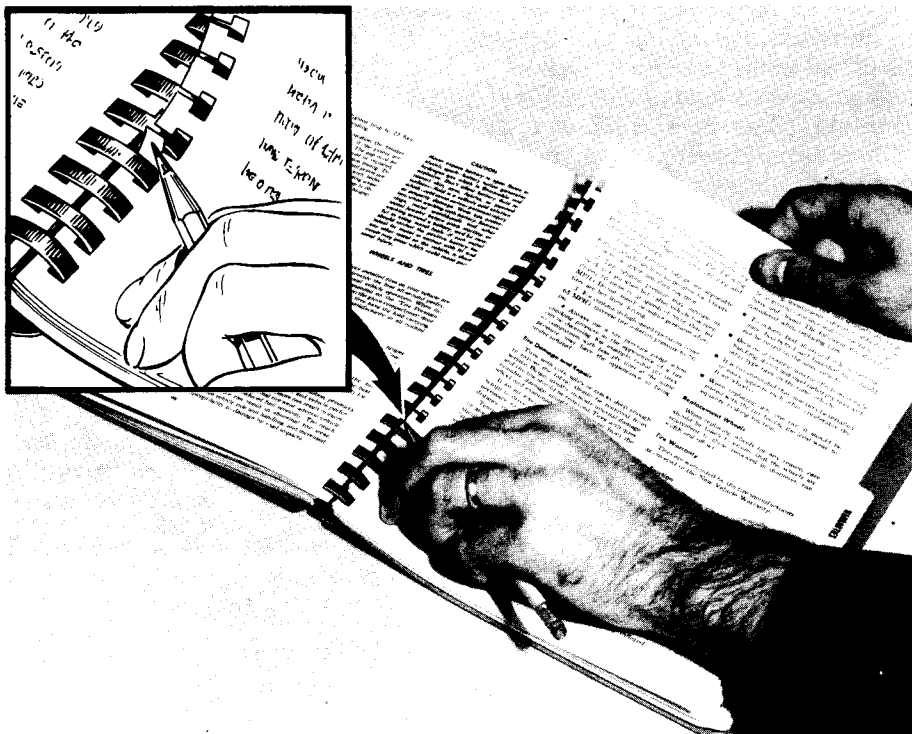

Figure 2
2. Install new page in its place, as shown in Figure 2.